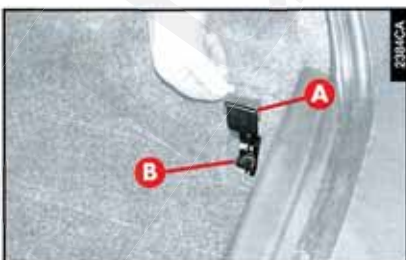

fig. 7
— open the boot, raise the trim (**A-fig. 7**) on the right-hand side of the boot to gain access to the key switch on the siren body;
- remove the protective cap (**B-fig. 7**) from the key switch;